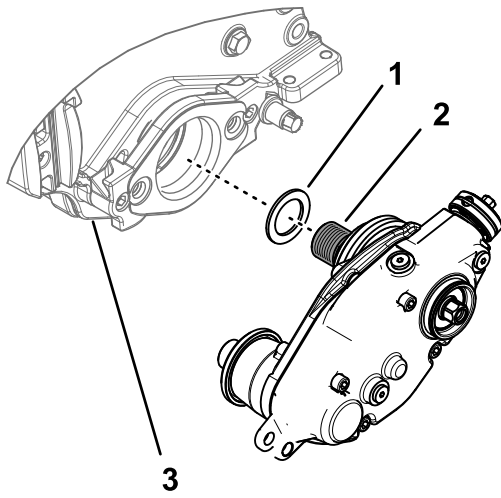

Figure 8
1. For a groomer drive box installed at the left side of a Greensmaster cutting unit, assemble the shim washer over the threads of the reel adapter (Figure 8).